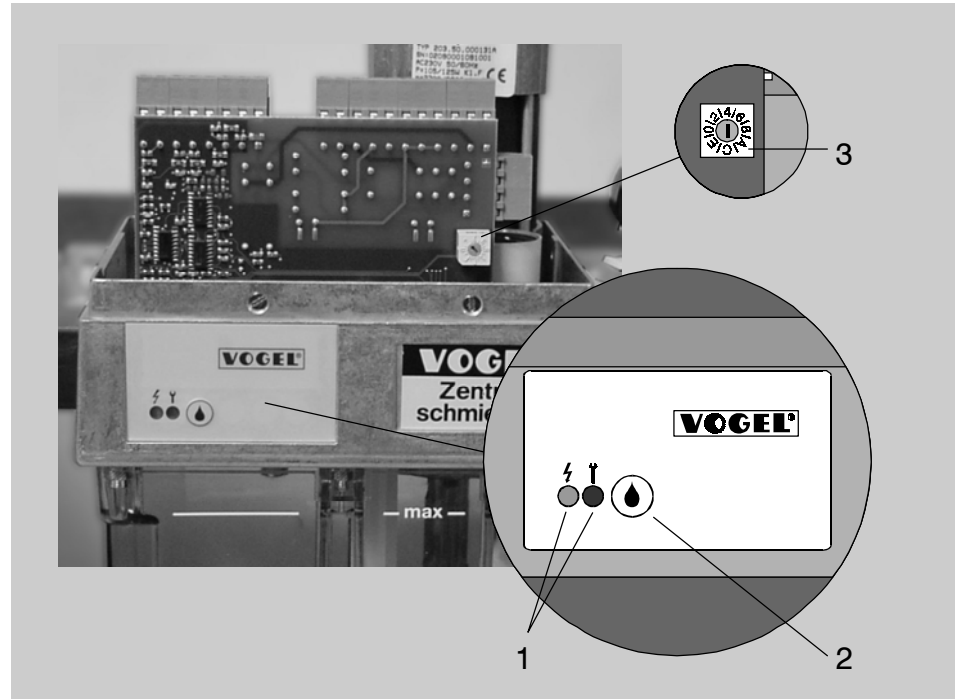

Figure 1 - 5. Display and operating elements
Fig. 1 - 5 shows the display and operating elements of the controller. Display elements are the two LED displays (1) on the operating display. Operating elements are the push-button (2) on the operating display and the rotary switch (3) on the circuit board.